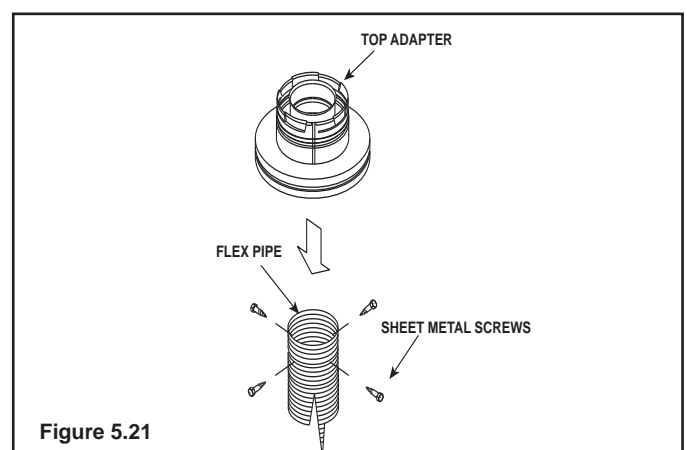

Figure 5.21
3. Connect the end of the flex pipe section to the underside of the top adapter, using four sheet metal screws (Figure 5.21).
- Connect the flex liner to the top adapter using four sheet metal screws (Figure 5.21).